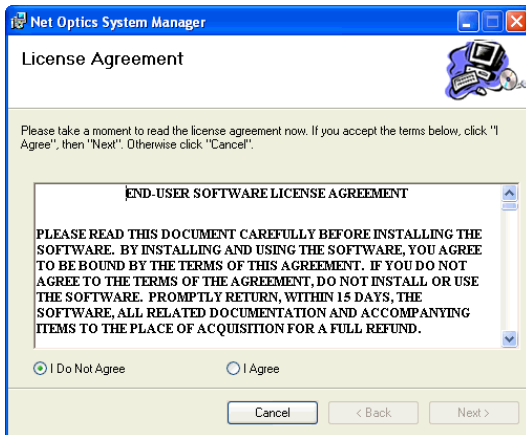

Figure 20: Net Optics System Manager License Agreement
1. Locate **Setup.exe** on the CD and double click it. The License Agreement dialog box appears as shown in Figure 20.